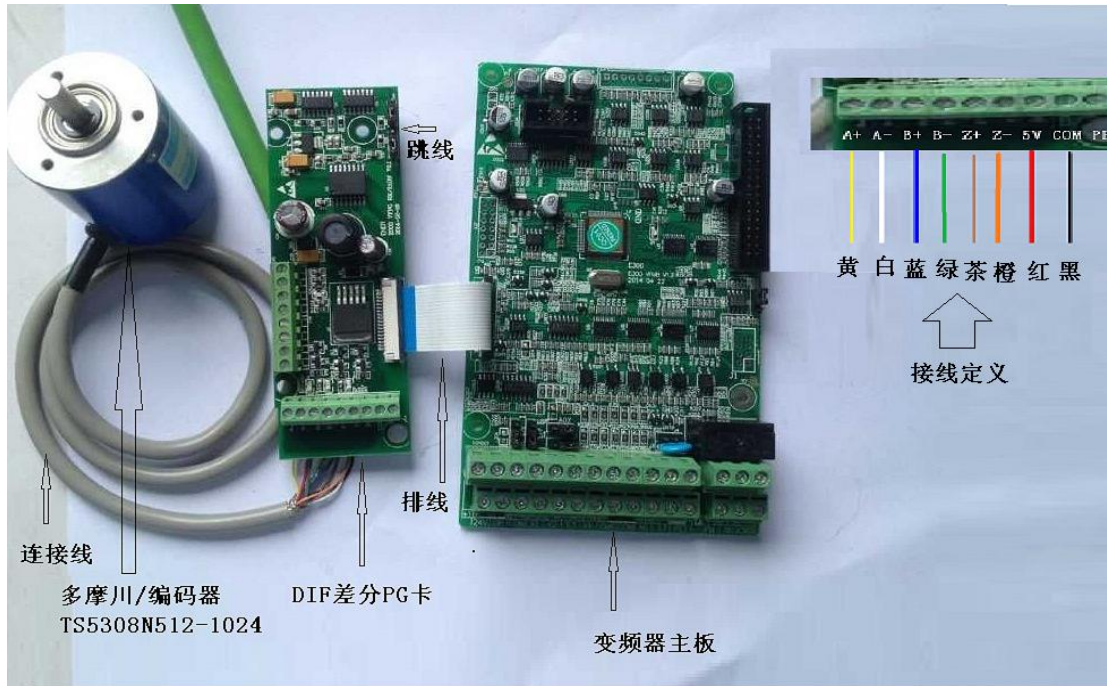

Figure 2: PG-DIF test
- 2) Connect the PG-DIF card to the encoder. As shown in Figure 2 below: